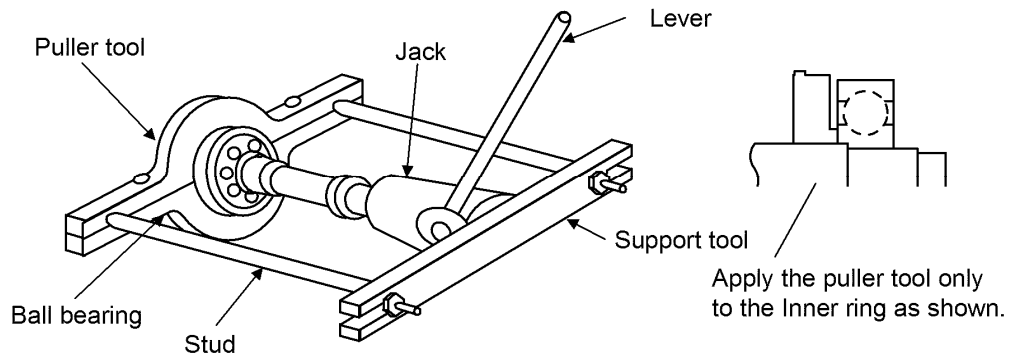

Fig. 13-13 Example of bearing pulling
- (5) Remove the bearing using a puller as shown in Fig. 13-13 or commercial rolling bearing puller. When pulling, heat the inner ring.
- (1) Uncouple the motor from the driven machine, and disconnect the power cable. Drain the lubricant for an oil bath type bearing.
- (2) Remove the accessories such as a temperature detector.
- (3) Remove the fan cover in case of TEAAC motor, and remove the air duct.
- (4) Move the motor to the disassembly area and set on side.
- (5) Remove the coupling in case of TEAAC motor, and remove the external fan.
- (6) Remove the upper and lower brackets.
- (7) Remove the upper bearing cover and lower bearing housing.
- (8) Remove the upper ring nut and lower grease runner.
- (9) Remove the bearing using a puller as shown in Fig. 13-13 or commercial rolling bearing puller. When pulling, heat the inner ring.
- (5) Move the motor to the disassembly area and set on a maintenance stand.
- (6) Support the shaft end by jack.
- (7) Remove the lid of the oil reservoir.
- (8) Remove the ring nut for the upper runner.
- (9) Remove the oil scattering protection cover.
- (10) Heat the upper runner and remove it.
- (11) Remove the upper bracket.
- (12) Pull out the rotor from the stator using a lifting tool and lay it on another place.
- (13) Remove the lower bearing housing.
- (14) Remove the grease runner.
- (15) Remove the bearing using a puller as shown in Fig. 13-13 or commercial rolling bearing puller. When pulling, heat the inner ring.
- (16) Heat the inner ring of the spherical roller bearing and remove the bearing from the upper runner. Remove the bearing outer ring from the upper bearing seating.